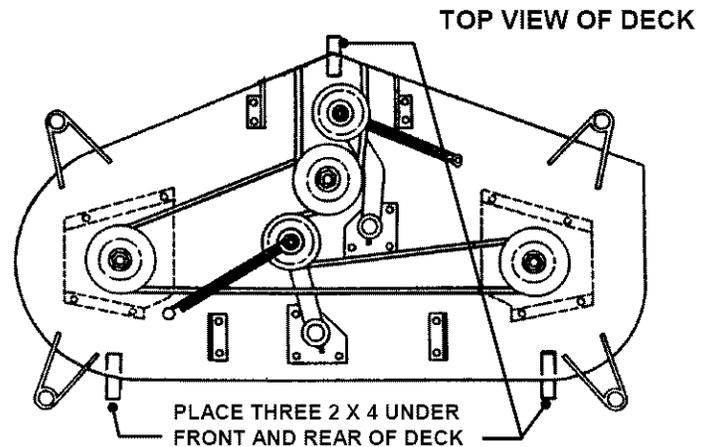

FIGURE 4.6
2. Rotate outside blades so tips are pointed to the sides of deck. See Figure 4.6. Measure the distance from blade tips to floor. If the measurement is within  $1/8"$  from side-to-side, the deck levelness is satisfactory. If the difference from side-to-side is greater than  $1/8"$ , continue to next step for adjustment.
3. Place a 2 x 4 piece of wood under the front middle portion of deck. Place one 2 x 4 piece of wood under the rear of deck on both sides behind the two outside blades. See Figure 4.6.